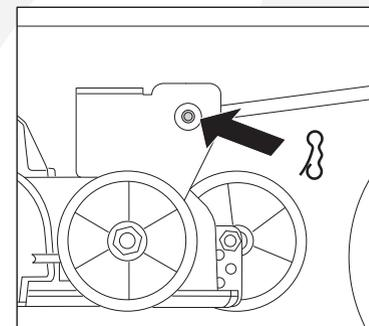
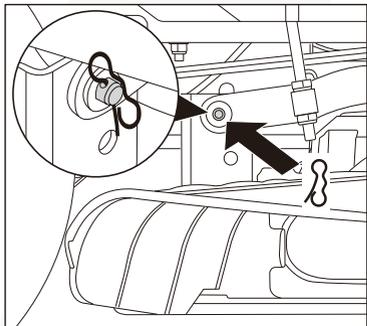
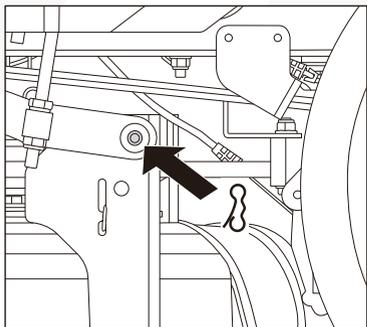

Fig. 25A
Fig. 25B
Fig. 25C
4. Remove 3 hitch pins, 2 on the right (Fig. 25A&Fig. 25B), 1 on the left (Fig. 25C) that secure the deck in place.